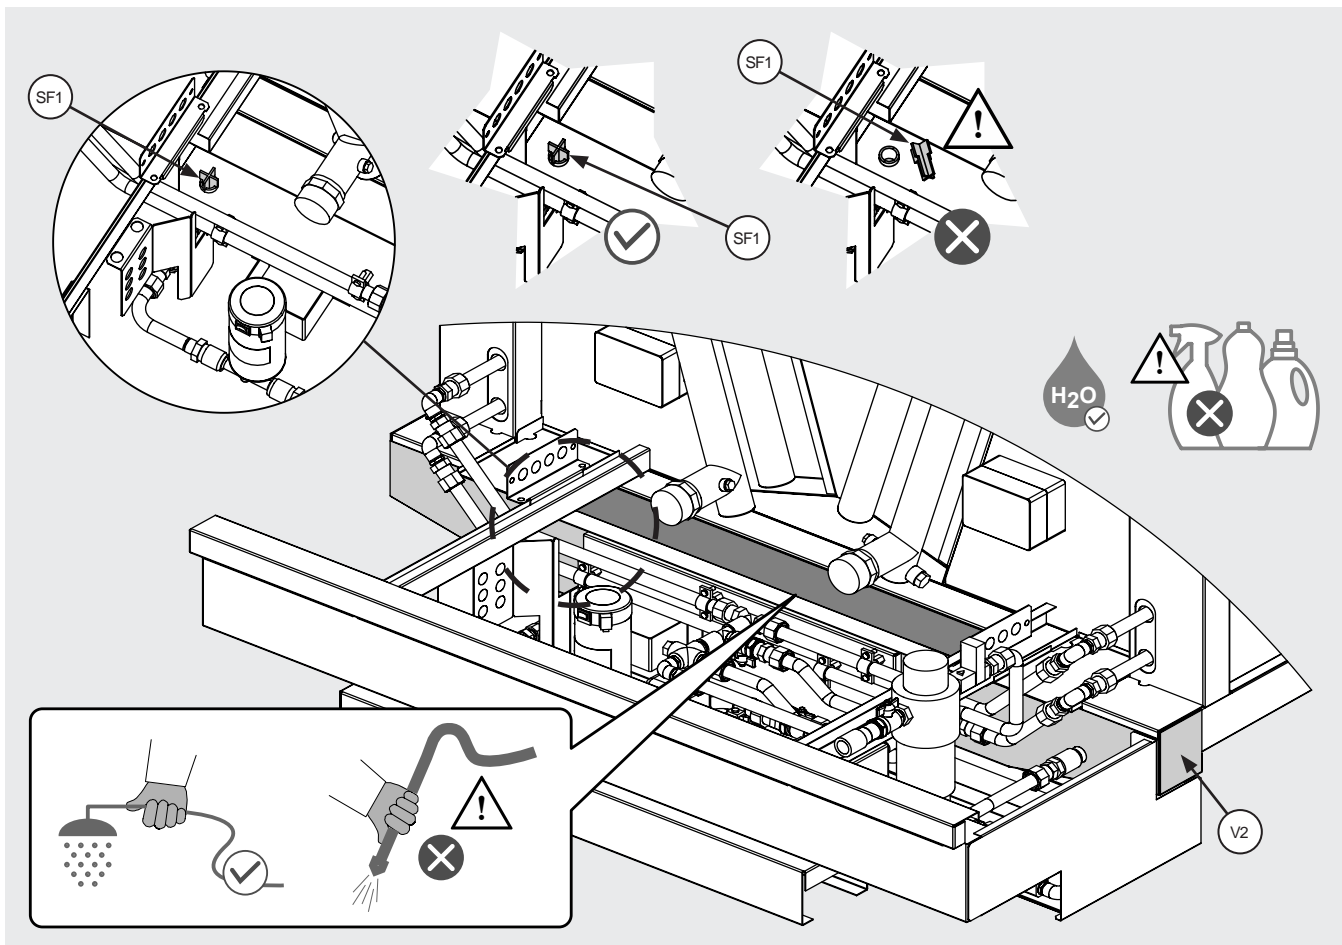

Figure 30
- 12.15.7 Clean with non-pressurized running water, taking care not to damage electrical connections and level sensors, see Figure 2 and Figure 30. Do not use pressurized water and/or cleaning or aggressive substances.
- 12.15.8 Carefully clean the flow divider SF1. Do not remove it from the housing. If accidentally removed, replace it. See Figure 30.
- 12.16.1 See point 2.9 for functional description of level switch (W1) and its location. Level switch (W1) is located inside the external tank (V2), see Figure 30.